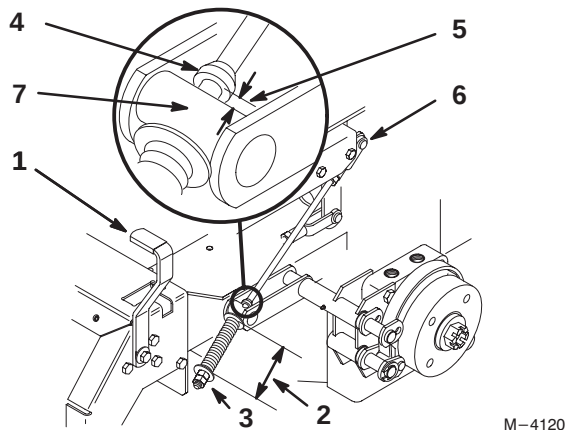

Figure 51
2. Measure the length of the spring. Measurement should be 2.75" (74 mm) between washers (Fig. 51).
3. If adjustment is necessary, loosen the jam nut below the spring and tighten the nut directly below the yoke (Fig. 51). Turn the nut until the correct measurement is obtained. Tighten the two nuts together and repeat on opposite side of unit.
6. Measure the distance between the trunnion roller and the collar on brake rod . Measurement should be 3/16"–1/4" (5–7 mm) (Fig. 51).
7. If adjustment is necessary, loosen the jam nut directly below the yoke. Turn the bottom adjusting nuts until the correct measurement is obtained (Fig. 51). Tighten jam nut at yoke